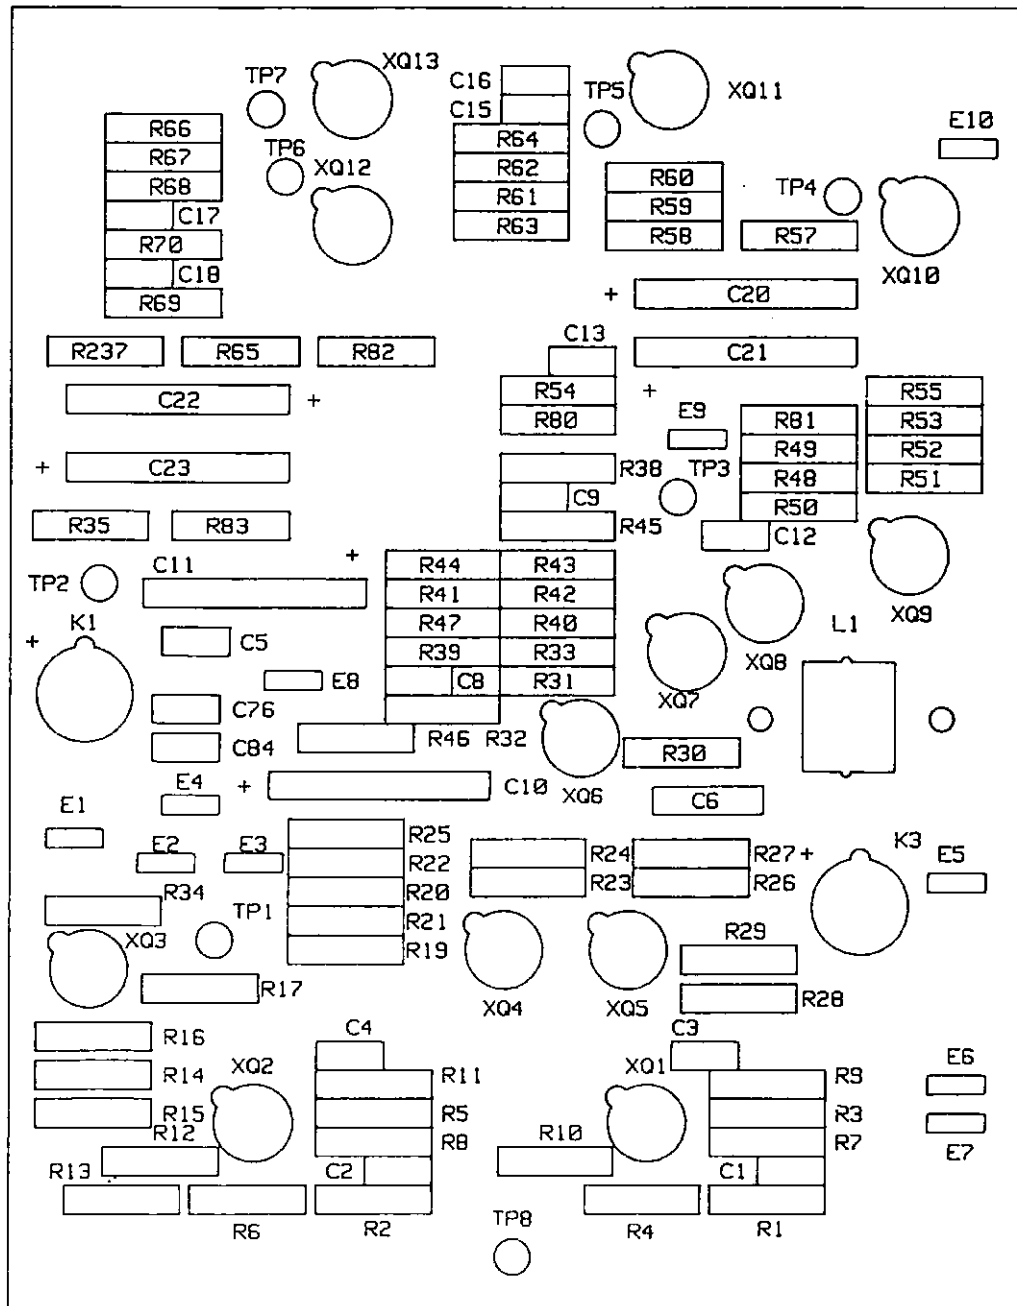

FIGURE 1.
3. Use parts locator drawings figure 1 and figure 2 for the following.
- b. Using Table 1 and the parts list [enclosure (2)], install the proper value resistor (items #4 or #5) for R73, and (items #6 or #7) for R76 on PCB 1A4A1A3A2 (item #2).
35. Connect wires labeled in the preceding steps to their respective terminal lug tabs on A1. Use figure 1 for tab locations.